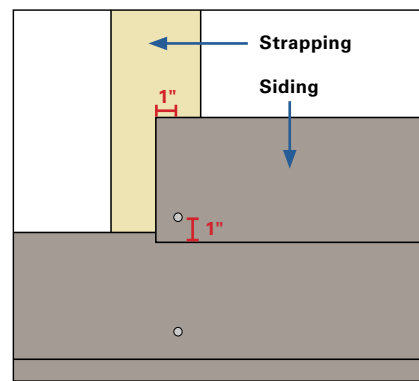

Fig. 15
- Siding must be nailed 1" from the end of the board to prevent splitting. (*See Figure 15*)